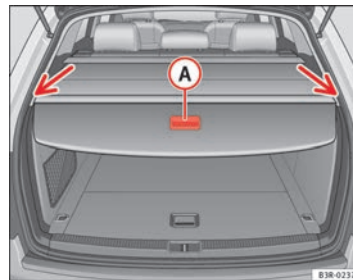

Fig. 120 Tailgate open with luggage compartment cover closed
- Using handle **A** ⇒ fig. 120, pull the rolled-up cover evenly towards the rear of the vehicle.
- Insert the ends of the bar into the grooves in the left and right-hand side trim ⇒ fig. 120 -arrows-.